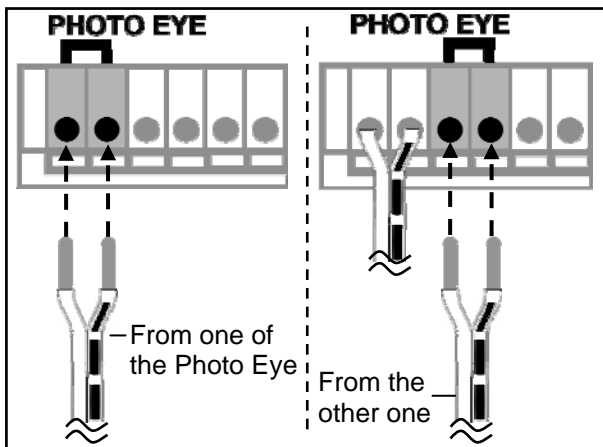

Fig. 2
Insert trolley (see fig.2).
1. Place the Photo Eyes facing each other on each side of the garage door, as shown in Fig.2.